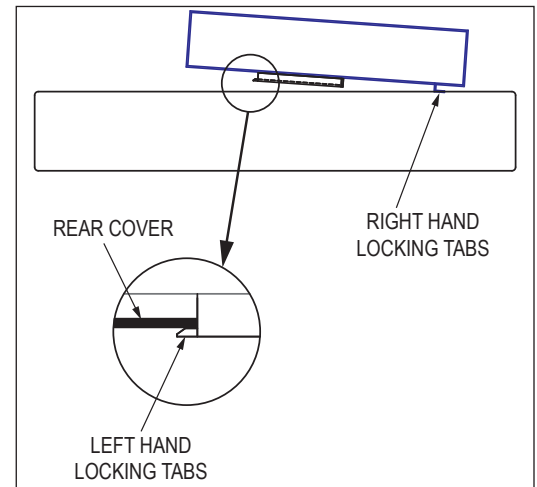

FIGURE 3
9. Refer to Figure 3. Insert the KVM Remote Module into the opening of the rear panel by sliding the right hand locking tabs in all the way to the right.
10. Refer to Figure 3. Press down firmly and slide the KVM Remote Module to the left until it stops with both left hand locking tabs securely inside the rear panel.